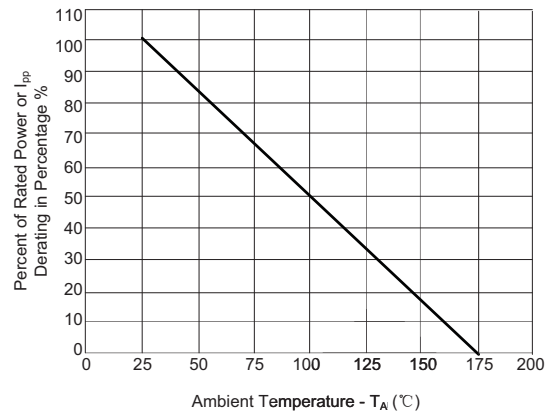
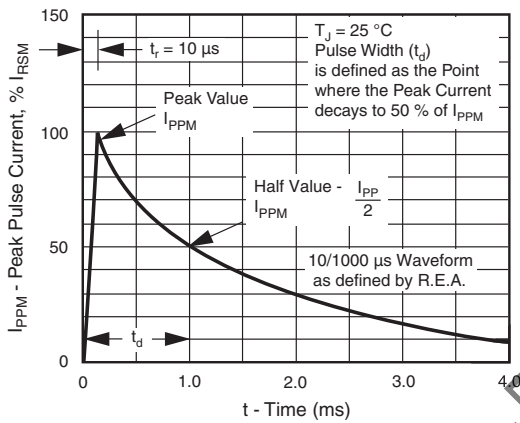

Figure 2. Pulse Power or Current vs. Initial Junction Temperature
Figure 3. Pulse Waveform
(1) Non-repetitive current pulse, per Fig. 3 and derated above $T_A = 25\text{ °C}$ per Fig. 2
(2) Measured on 8.3 ms single half sine-wave or equivalent square wave, duty cycle = 4 pulses per minute maximum